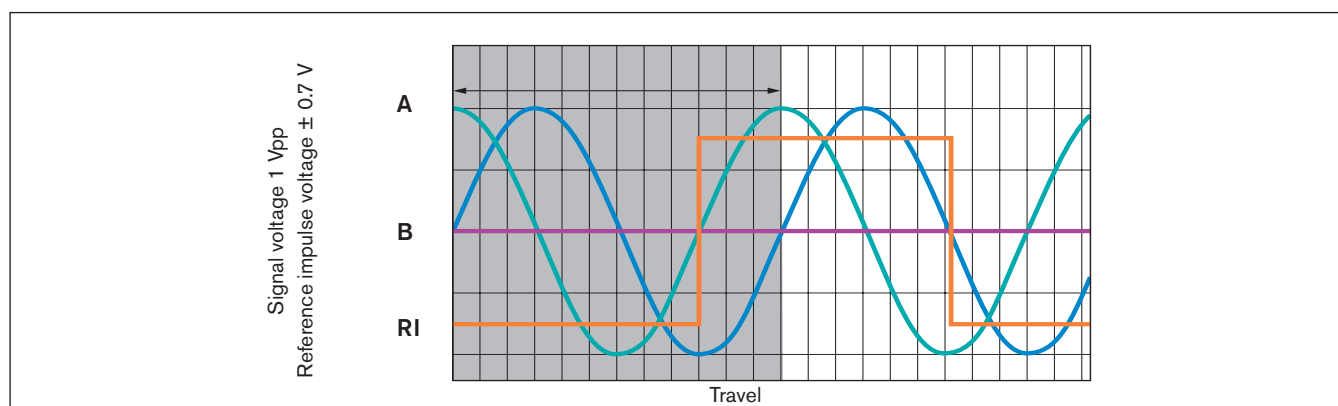

Fig. 8: Analog sinusoidal (I1)*)
*) Fig. 8 / 9: A, B and full differential RI for sensor motion in the positive counting direction.